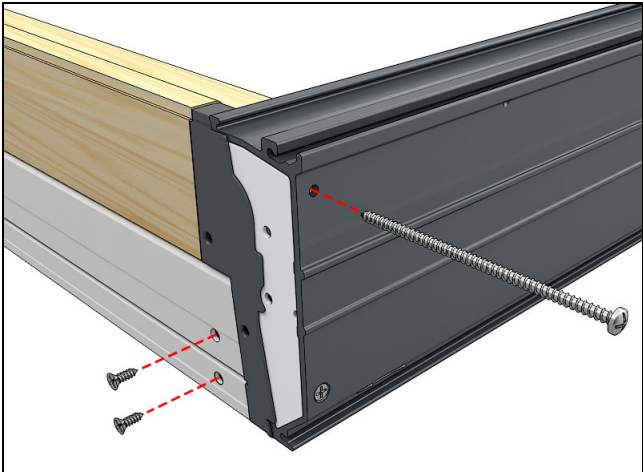

Figure 6
5. Fasten the sill to the side jambs (short screws first and replace the interior sill screw with the 4" Panhead). See Figure 6.